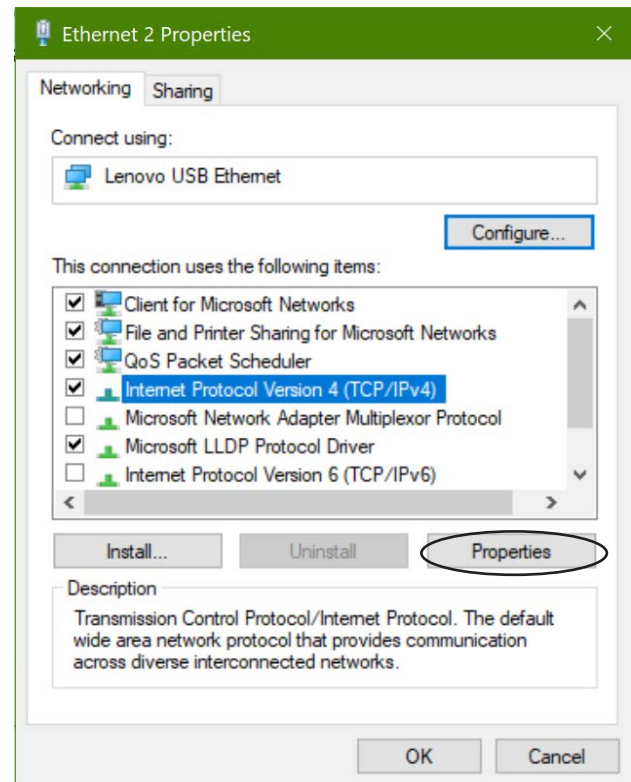

FIGURE 6
5. In the opened Properties window, change the addresses as shown in Figure 6: